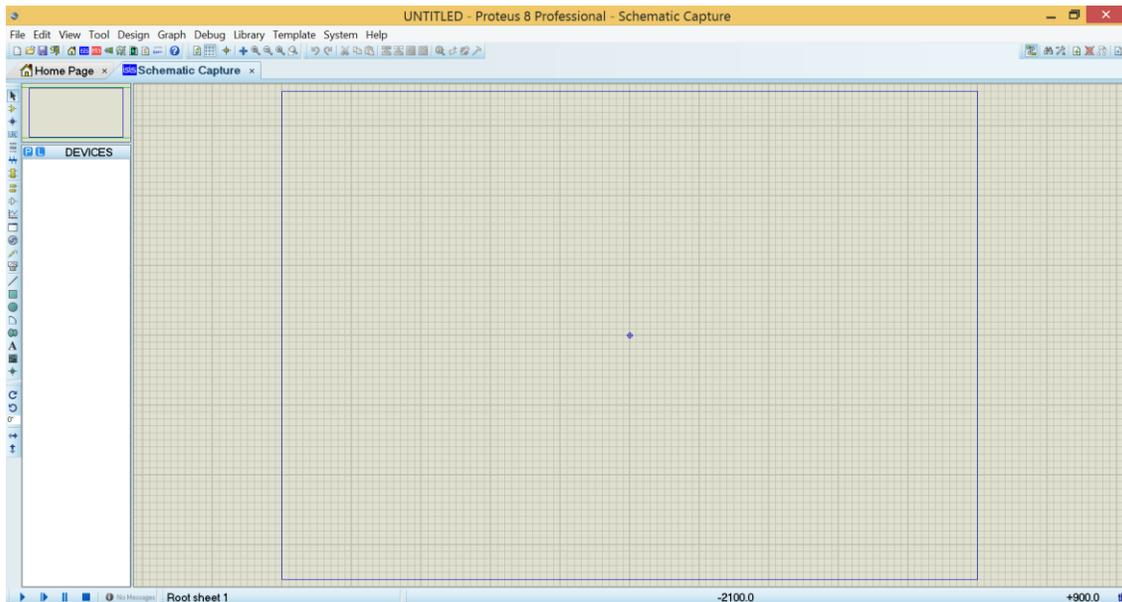

Figure-9
1) Open ISIS, our simple project should be light the LED on 0th bit PORTB. In this scope, we need to add related components to the schematic project and construct the simulation circuit. In the **Figure-9**, a blank schematic page can be seen.